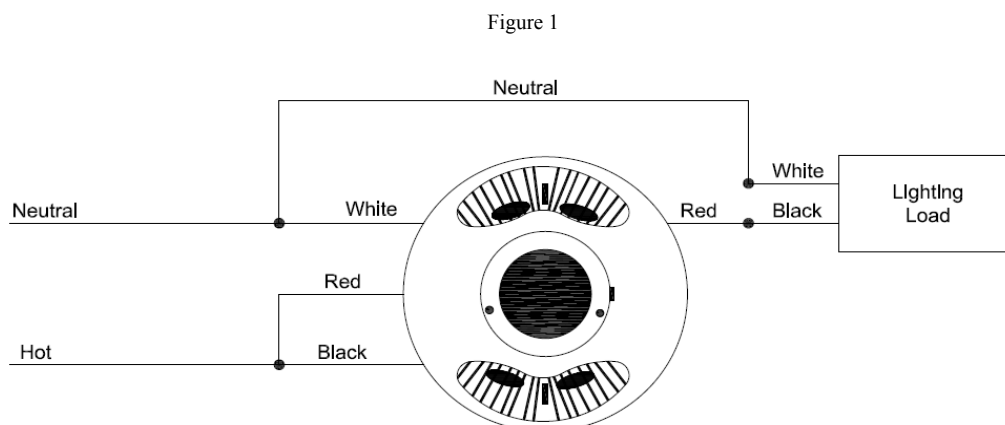

Figure 2
4. Mount power pack in single gang mud ring secured to a four inch square electrical box (Figure 2). Use screws (not included) as appropriate to application.